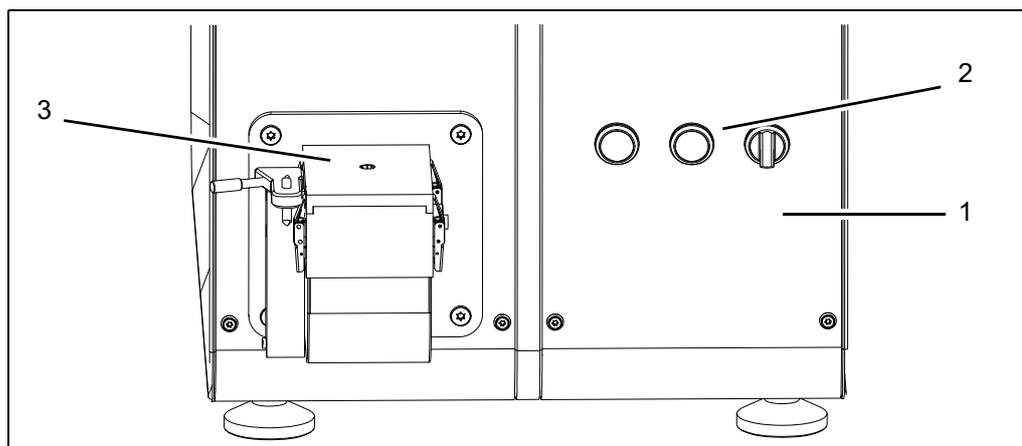

Fig. 5-1 Workstation at the spectrometer
- Set up the instrument so that the operator can operate the instrument on the front (1, fig. 5-1) without restrictions to his freedom of movement. The instrument is operated at the computer screen with the buttons (2) on the front and at the spark stand (3).